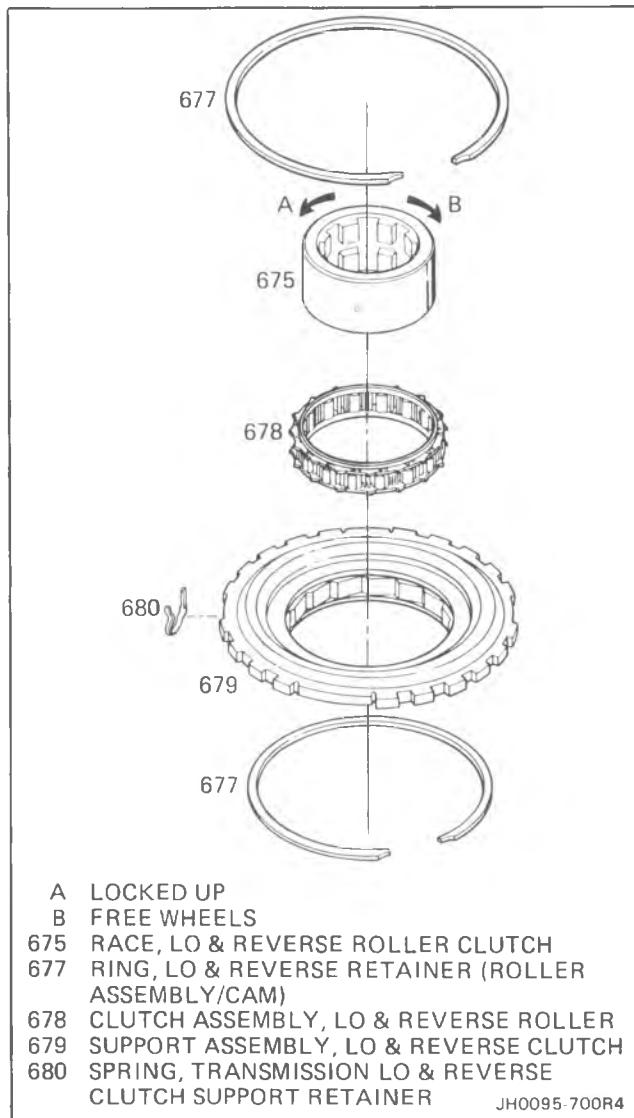

Figure 111 Lo and Reverse Clutch Support Assembly
➡ Remove or Disconnect (Figure 111)
➡ Inspect (Figure 111)
➡ Install or Connect (Figure 111 and 112)
3. Inner race (675) into the roller assembly
4. Turn inner race (675) while inserting
- check for proper operation by rotating the inner race as shown in Figure 111.
5. Support retainer spring (680) into the case